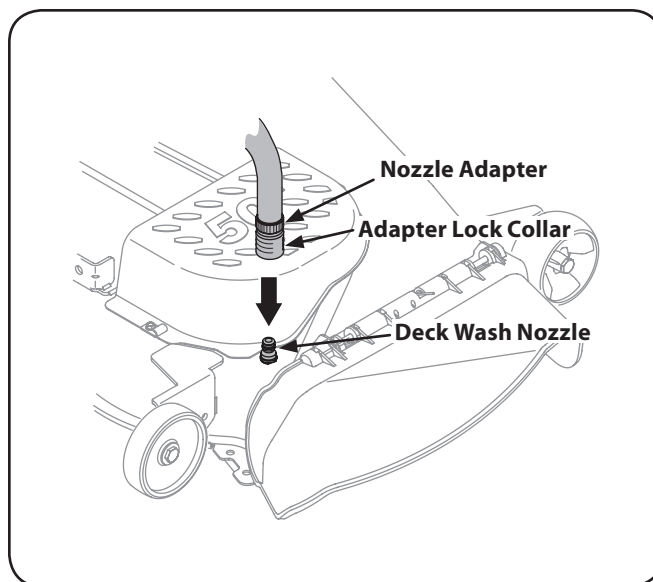

Figure 6-3
3. Attach the hose coupler to the water port on the left of your deck surface. See Figure 6-3.